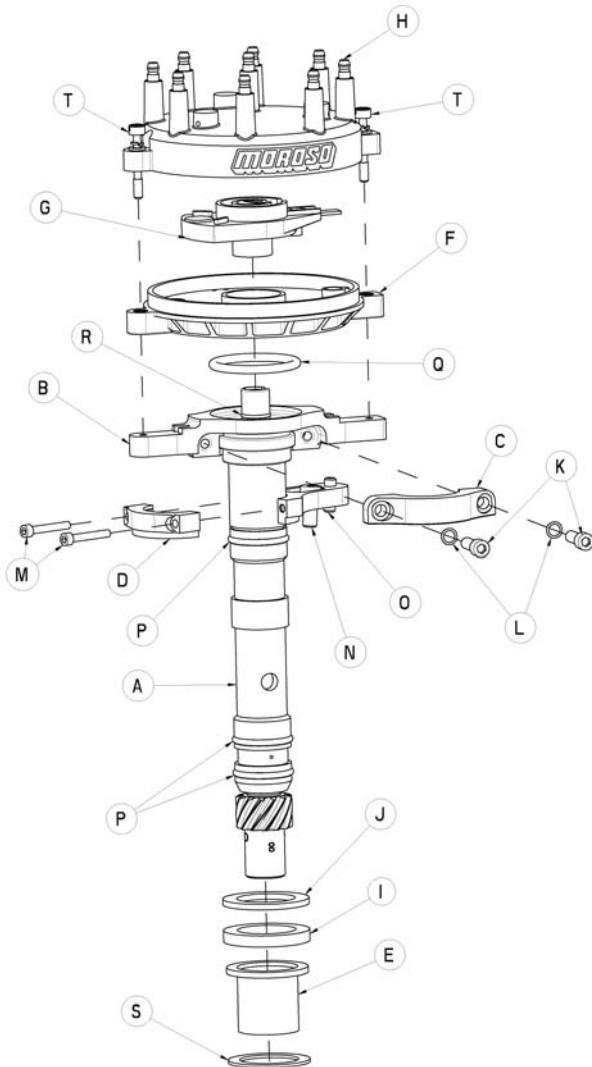

Figure 1
6. Slide the Sealing Flange/Gasket onto the Stem Assembly as oriented in Figure 1.